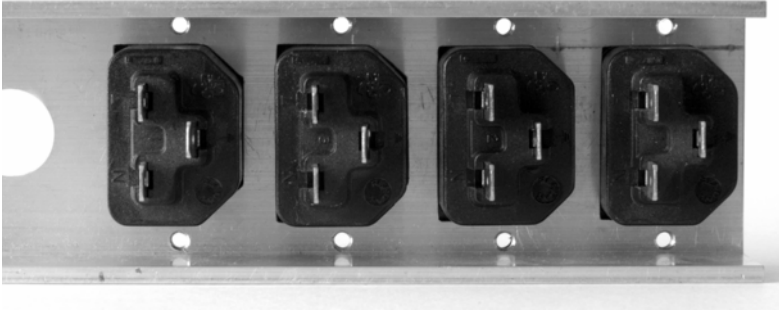

Figure 1.34
- Provided that the holes **are** tapped, shuttered IEC sockets will just fit between the flanges of 2" channel if they are fitted vertically (see Figure 1.34).